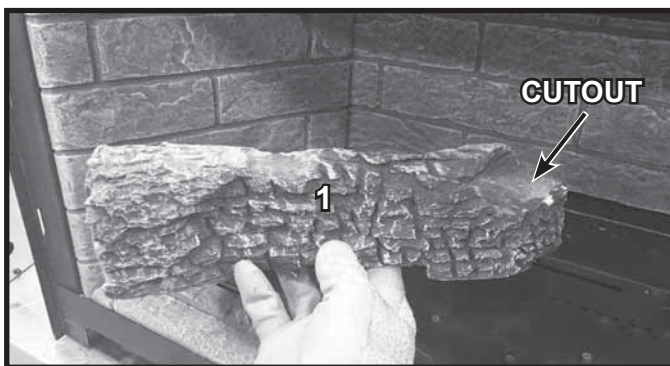

Figure 14. Log #1 Cutout
**LOG #1:** Place cutout area of log #1 against the left side of the pilot hood. Lower the bark end of the log down until it rests on the horizontal beam of the log grate. It will sit between tine #1 and the refractory. The transition from bark to burnout will line up with the grate bar. Ensure that the cutout section of the log is pushed up against the side of the pilot hood. See Figures 14, 15 and 16.